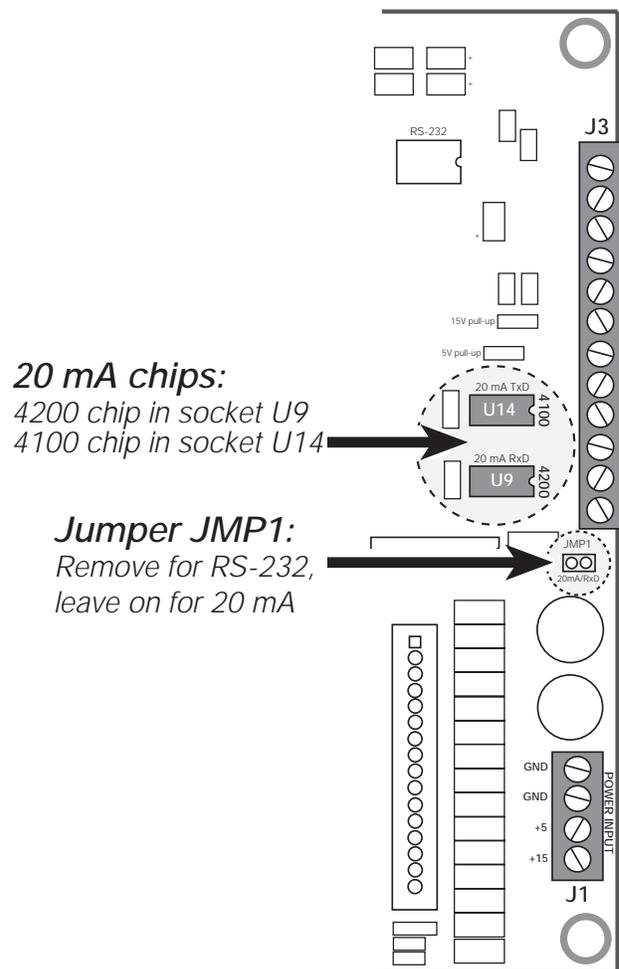

Figure 2-1. Locations of Jumper JMP1 and 20 mA Chips on Right Edge of CPU Board
6. For RS-232 connections, remove jumper JMP1 on the CPU board (see Figure 2-1).